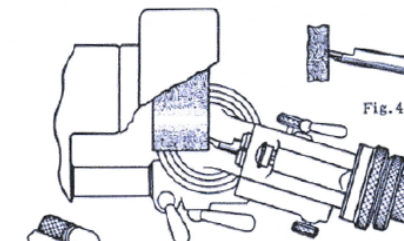

Fig. 4
3. Release clamping levers *K3* and *K4*; hold scale *T4* against its stop and, beginning at the 90°-position, set swivel arm at the desired angle; for example, where an angle of 30° is desired, the swivel arm will have to be set at 90°. Tighten clamping levers *K3* and *K4*, see Fig. 4.